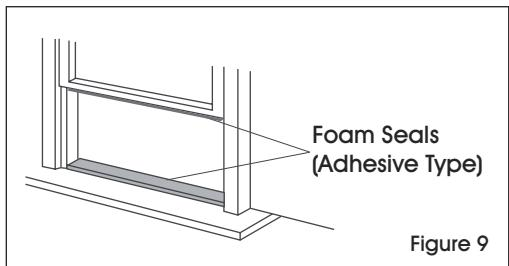

Figure 9
1. Cut the adhesive-type foam seals to the proper lengths and attach them to the window and sill. (See Figure 9)